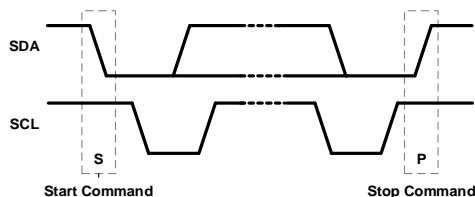

Figure 5: Start and Stop Commands
Start and stop commands are signaled by the master device, which signifies the beginning and the end of the I²C transfer. A start (S) command is defined as the SDA signal transitioning from high to low while SCL is high. A stop (P) command is defined as the SDA signal transitioning from low to high while SCL is high (see Figure 5).